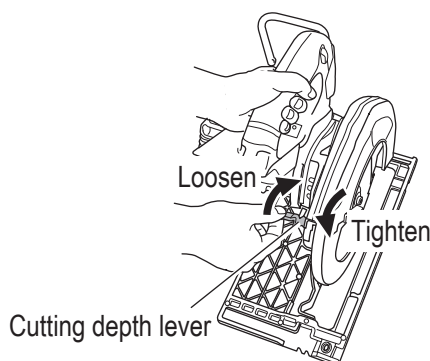

Fig. 18
1. Adjusting the cutting depth (Fig. 18)
2. Check if the levers are tightened (**Fig. 18, Fig. 19** on pages 67–68)